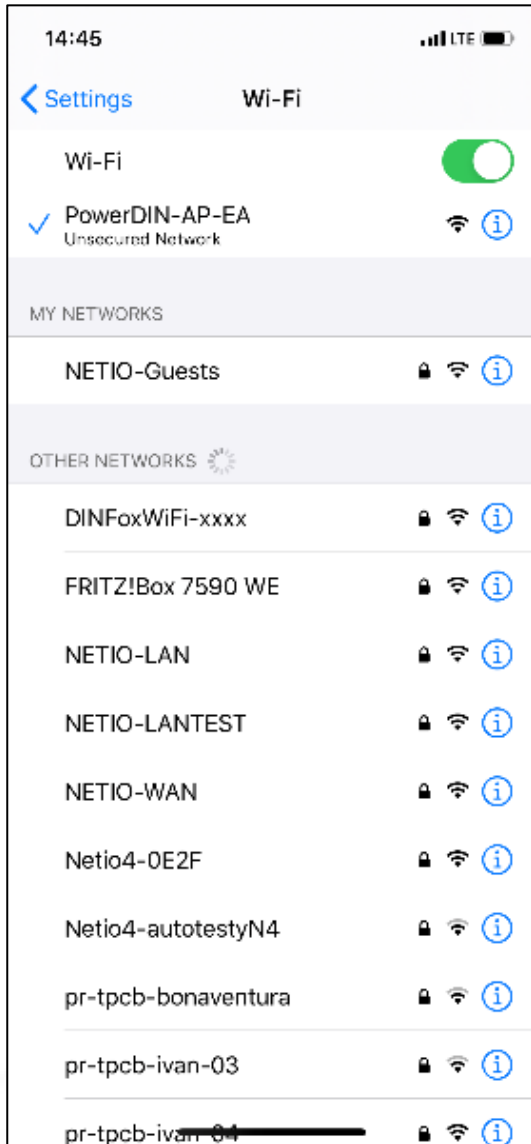

Figure 6 - Connecting to PowerDIN 4PZ AP
- Connect from PC, tablet or smartphone, to WiFi “PowerDIN-AP-xx” (Figure 6).